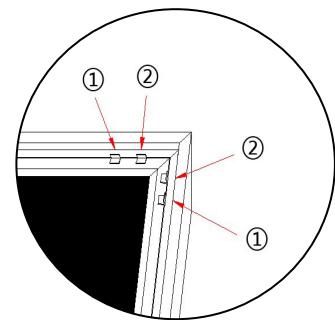

Fig. 7
- (3) Insert the fix the plates as shown on Fig. 5. Fix plate ① is about 10cm away from the frame's corner. Fix plate ② is about 5cm away. (Fig.7)